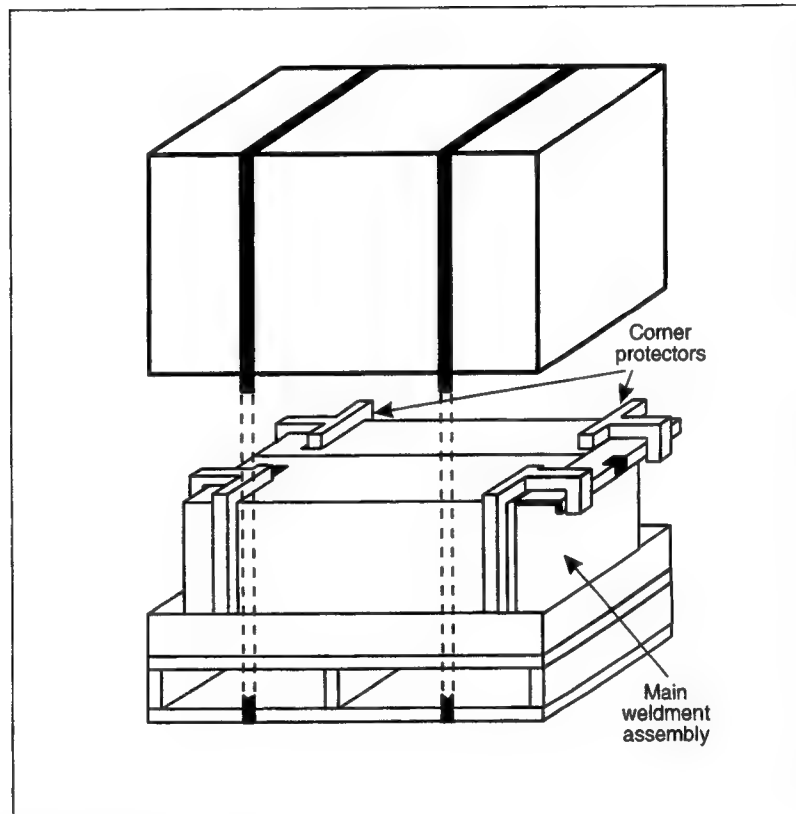

Figure 2-24. Remove Box
- a. Cut straps (2) and remove the outside plastic film. Remove the box as it is shown in Figure 2-24.
- b. Push the foam corner protectors to the side and open the doors in the Main Weldment assembly (Figure 2-24).
- g. Remove the foam corner protectors (Figure 2-24). Pull up the corners of the Weldment assembly to ease the removal of the protectors.